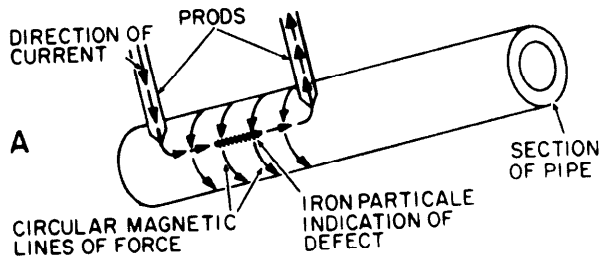
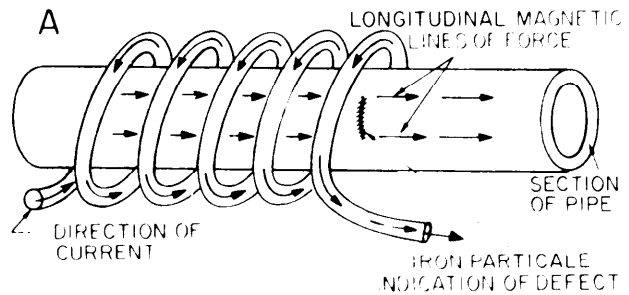

Figure 11-7.—Circular magnetization—prod method.
Figure 11-8.—Longitudinal magnetization—coil method.
The test piece may be magnetized either by passing an electric current through it, as shown in view A of figure 11-7, or by passing an electric current through a coil of wire that surrounds the test piece, as shown in view B of figure 11-8. When an electric current flows in a straight line from one contact point to the other, magnetic lines of force are in a circular direction, as shown in view A of figure 11-7. When the current flow is through a coil around the test piece, the magnetic lines of force are longitudinal through the test piece. In order for a defect to show up as a disturbance in the pattern of the iron particles, the direction of the magnetic field must be close to a right angle to the major axis of the defect. Since the orientation of the defect is unknown, a minimum of two current directions must be used during the test. In figure 11-7, circular magnetism is induced in the test piece so that the piece may be inspected for lengthwise cracks. Longitudinal magnetism (fig. 11-8) is induced so that the piece may be inspected for transverse cracks. In general, magnetic particle inspection is satisfactory for detecting surface cracks and subsurface cracks that are not more than 1/4 inch below the surface.
The type of MT inspection unit most commonly used in the Navy is the portable unit shown in view B of figures 11-7 and 11-8. It is a high-amperage, low-voltage unit having a maximum magnetizing current output of 1,000 amperes, either alternating or direct current. It is ready to operate when it is plugged into the voltage supply specified by the manufacturer. The unit consists of magnetizing current source, controls, indicating meters, three 10-foot lengths of flexible cable for carrying the current to the test piece, and a prod kit. The prod kit includes an insulated prod grip fitted with an ON-OFF relay or current control switch, a pair of heavy copper contact prods, and two 5-foot lengths of flexible cable. Cable fittings are designed so that either end of any cable may be fitted to the unit, to the prods, or to any other cable. The unit has
- View B of figure 11-7 shows prods attached to the flexible cable and used as contacts through which current is passed into and out of a portion of the test piece. This sets up a circular magnetization in a local area between the prod contact points.
- View B of figure 11-8 shows a flexible cable wrapped around the work. This forms a coil which, with the passage of current, induces longitudinal magnetism in the part of the workpiece that is surrounded by the coiled cable.